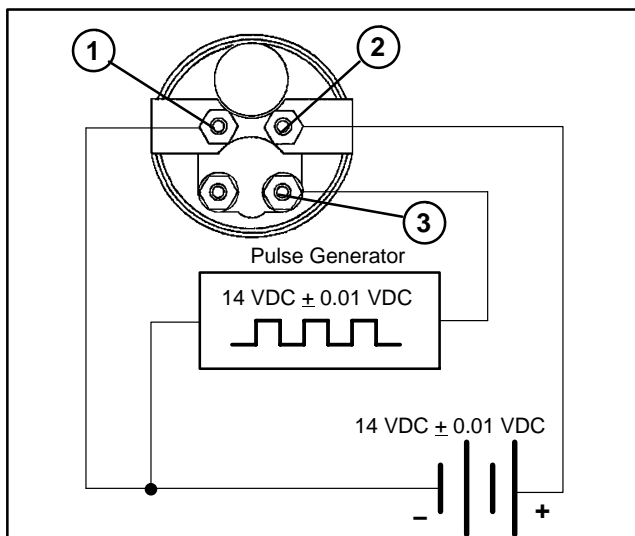

Figure 38
1. Connect speedometer to the pulse generator and DC voltage source (Fig. 38).